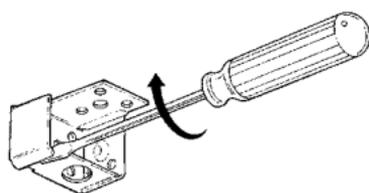

Figure B2
4. Using a flathead screwdriver, open the latches of the end brackets. (See Figure B2)
6. Using a flathead screwdriver, open the latches of the end brackets. (See Figure B2, Page 2)
2. Using a flathead screwdriver, open the latches of the end brackets. (See Figure B2, Page 2)